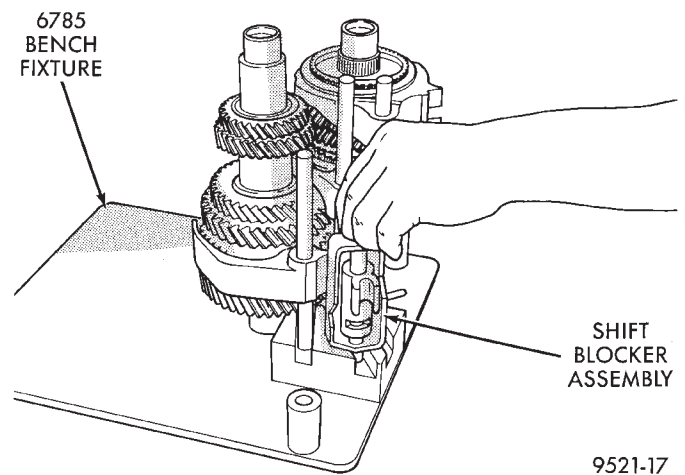

Fig. 68 Shift Blocker Installation
(3) Install shift blocker assembly into bench fixture (Fig. 68).